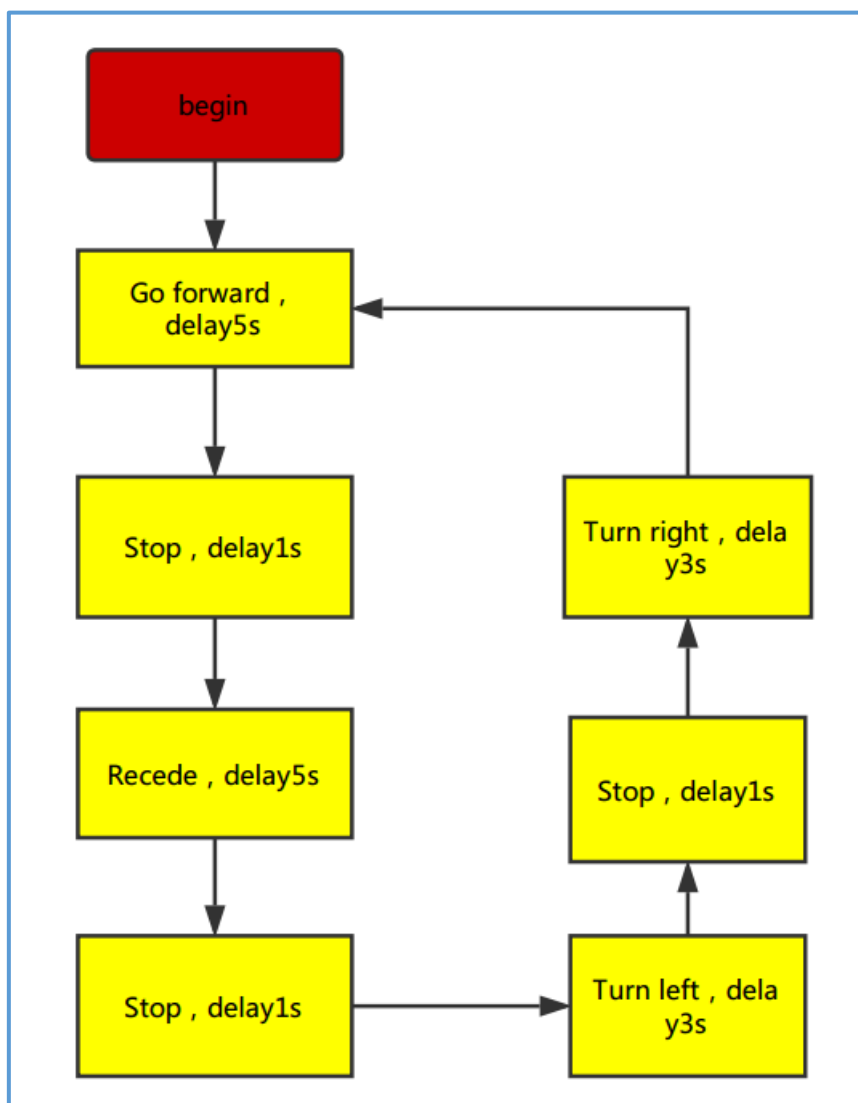

Figure 3.2.9 Motor Test Flow Chart
1.The module output port OUT can be directly connected with the IO port of the microcontroller, and directly drive a 5V relay; the connection mode is: VCC-VCC; GND-GND; OUT-IO (A3 and A4), as shown in Fig.3.2.9 and Chart 3.2.1.